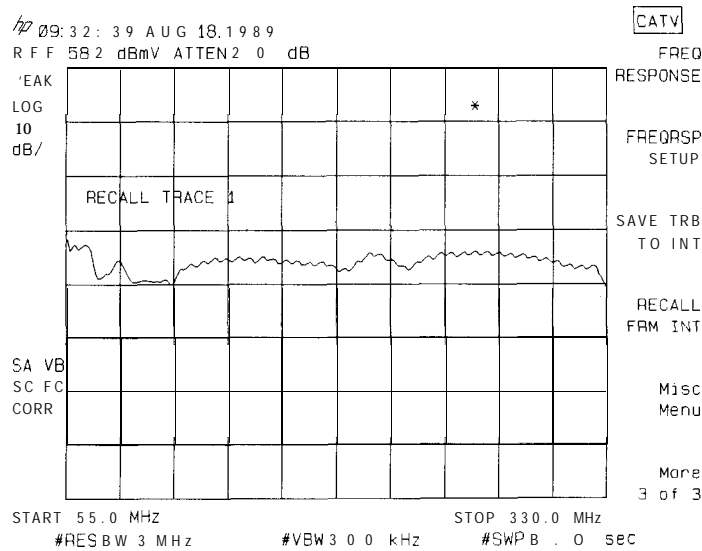

Figure 2-25.
3. The trace is recalled to trace B in view mode. It is complete when the message RECALL TRACE n (where n is the trace number you entered) as shown in Figure 2-25.